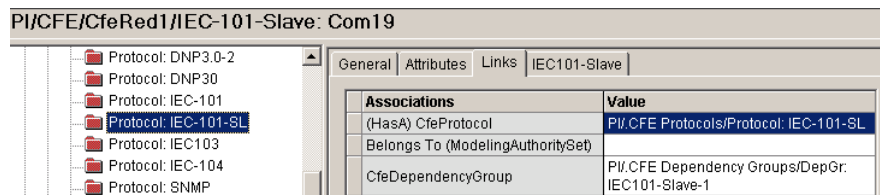

Figure 3-3.12: Establishing a System Link to the Slave Protocol Instance "IEC-101-SL"
2. Open the tab 'Links' and establish a system link from protocol instance 'PI/CFE Protocols/IEC101-SL' to the association '(HasA)CfeProtocol', see Figure 3-3.12